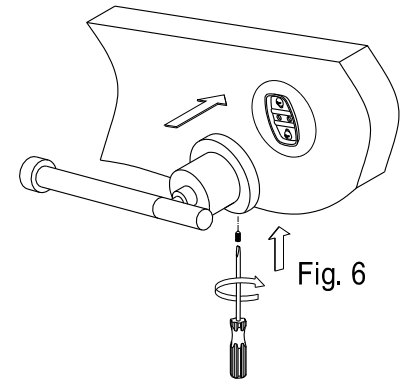

Fig. 6
- Step 7. Place the unit, with the small hole in the base underneath, over the mounting plate by tightening the slotted set screws with a flat head screwdriver until the base is tightly fixed (fig 6).
- Step 6. Place the unit, with the small hole in the base underneath, over the mounting plate by tightening the slotted set screw with a flat head screwdriver until the base is tightly fixed (fig 6).
- Step 6. Place the unit, with the small hole in the base underneath, over the mounting plate by tightening the slotted set screws with a flat head screwdriver until the base is tightly fixed (fig 6).